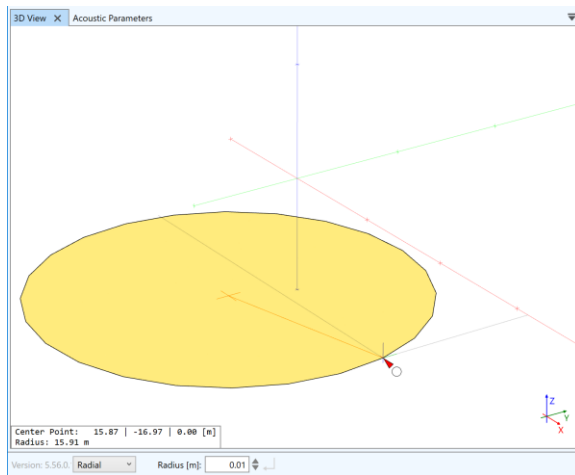

Figure 7.24 Inserting a circular face: Preview while defining a point on the circumference.
2. Determining the circumference of the circle by selecting a point that is on the circle in 3D coordinates or by entering the radius of the circle (Figure 7.24).